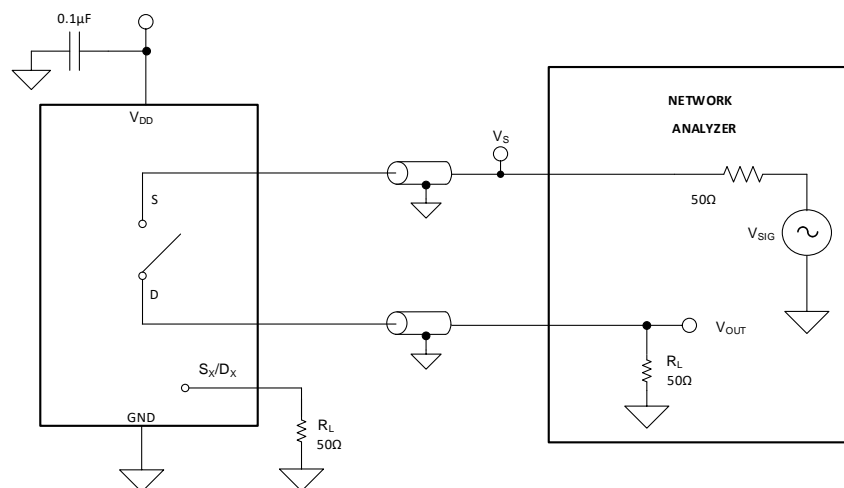

Figure 14. Off Isolation Measurement Setup
Off isolation is defined as the ratio of the signal at the drain pin (D) of the device when a signal is applied to the source pin ( $S_x$ ) of an off-channel. Figure 14 shows the setup used to measure, and the equation to compute off isolation.